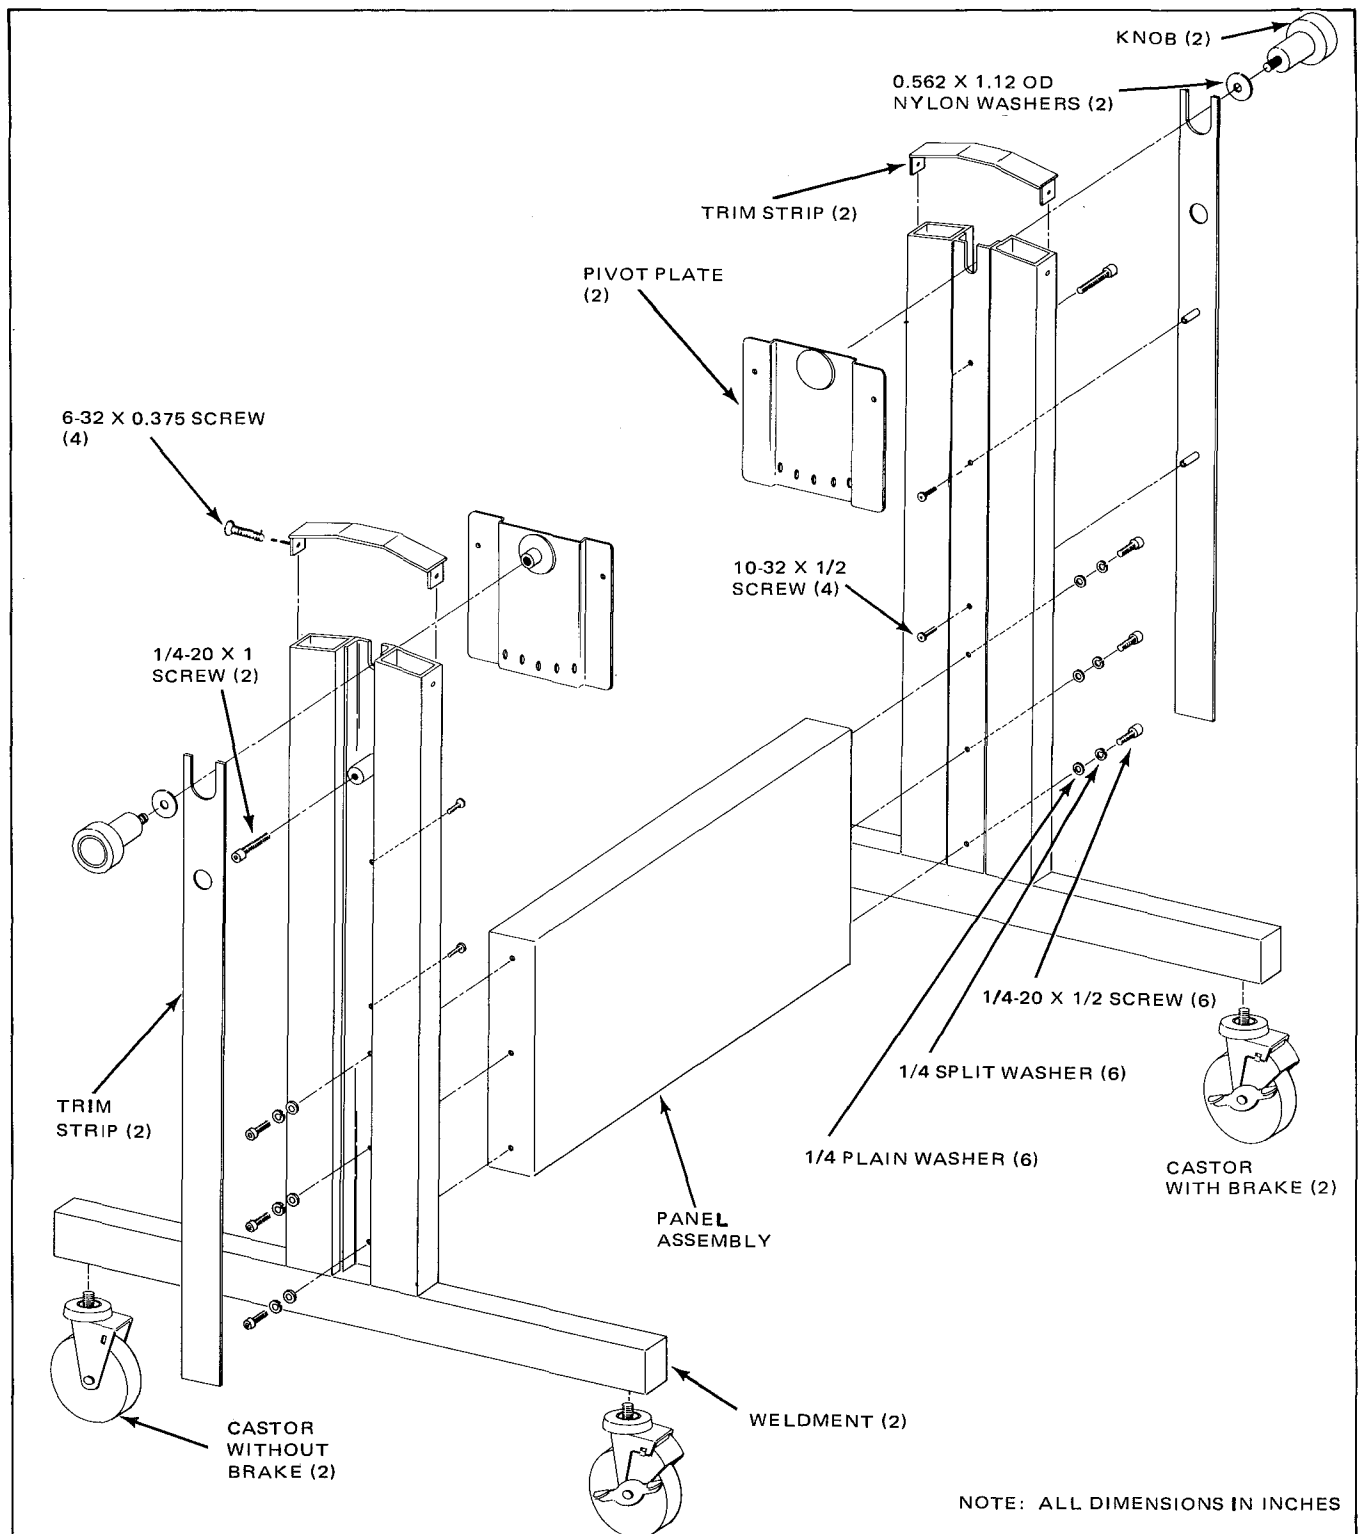

Figure 2-5. Pedestal Assembly, Exploded View
1. Refer to Figure 2-5 and assemble pedestal as follows:
- b. Install two swivel castors with brakes (front) and two swivel castors without brakes (rear) as shown in Figure 2-5. Castors are installed by screwing the threaded stud of the castor into the threaded insert at the bottom of the pedestal weldment.